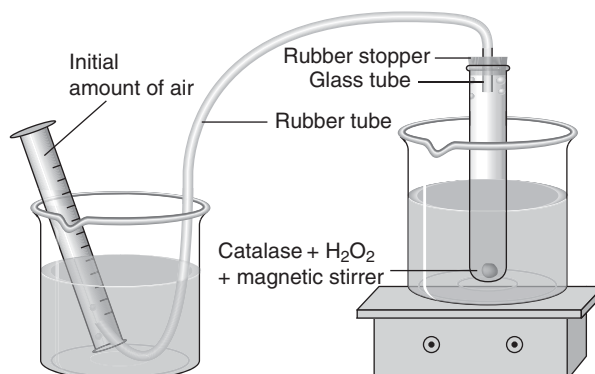

Figure 36.1
- Set up the apparatus according to Figure 36.1. Heat the water bath to 35–37°C. Often when the graduated cylinder is tipped over, a small amount of air will be trapped at the top. Record this initial amount of air in the 25-mL graduated cylinder.